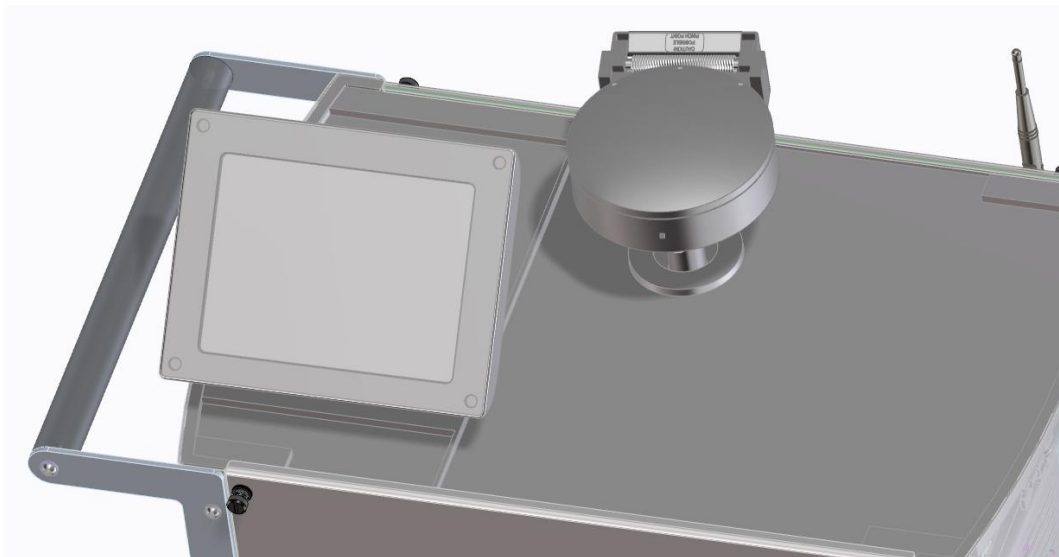

Figure 10: Flapper Box Assembled
- P/N VSFLDFBNW25: Utilizing the NW-25 Centering Ring and Quick Clamp (“Figure 10: Flapper Box Assembled”).